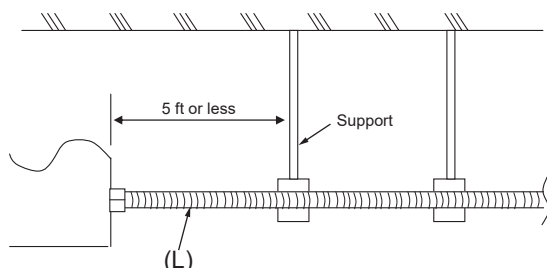

Fig. 8-8
To avoid excessive strain on the Branch box, support the conduit pipe (L) with one or more support(s) 1.5 m [5 ft] or less from the Branch box. Refer to Fig. 8-8 as an example.